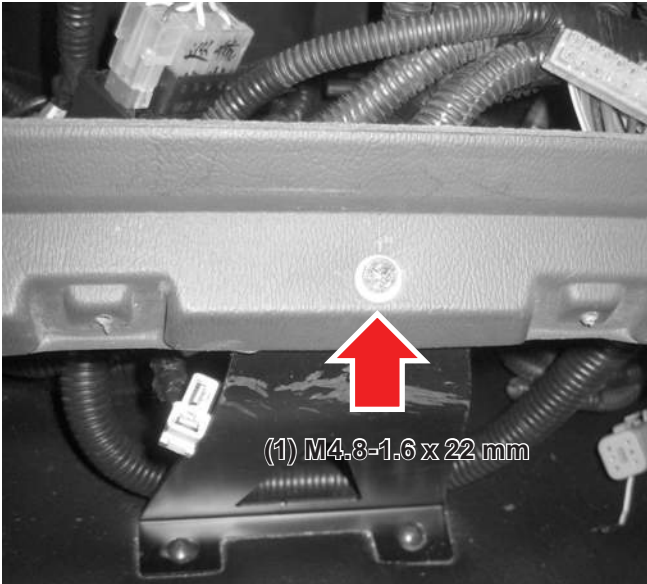

Figure 6-1
1. Remove the screw and washer and set aside for reinstallation (see *Figure 6-1*).